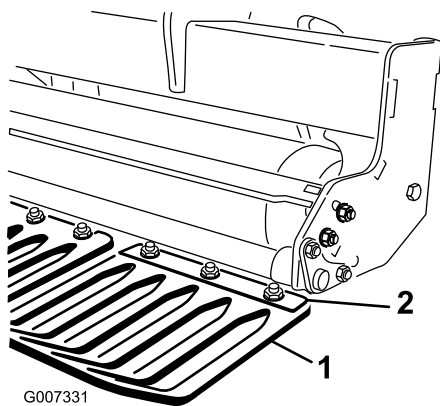

Figure 14
1. Loosen nuts securing turf guard clamps to turf guard tool bar (Figure 14).